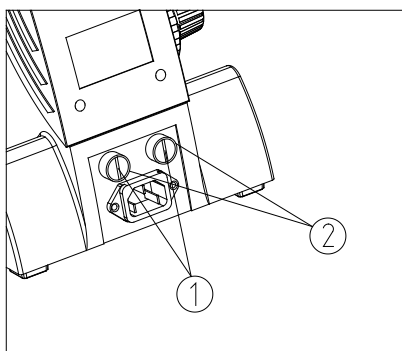

Figure 23
Remove power cord from the rear of the microscope frame. Unscrew the fuse holder①from the fuse base② with a screwdriver. Install a new fuse and replace the fuse holder. (Figure 23)